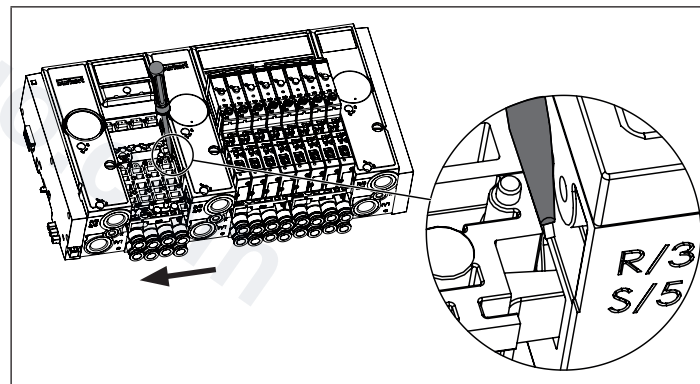

Fig. 17: Unlocking top latch hook
- Unlock the top latch hook. To do this, push the left connection module parallel to the standard rail of the locked valve unit away with a slotted screwdriver at the bottom latch hook, until the top latch hook unlocks (see “Fig. 17”).
- Unlock the top latch hook. To do this, push the connection module parallel to the standard rail of the locked valve unit away with a slotted screwdriver at the top latch hook, until the top latch hook unlocks (see “Fig. 17”).
- Unlock the top latch hook. To do this, push the left connection module parallel to the standard rail of the locked valve unit away with a slotted screwdriver at the top latch hook, until the top latch hook unlocks (see “Fig. 17”).